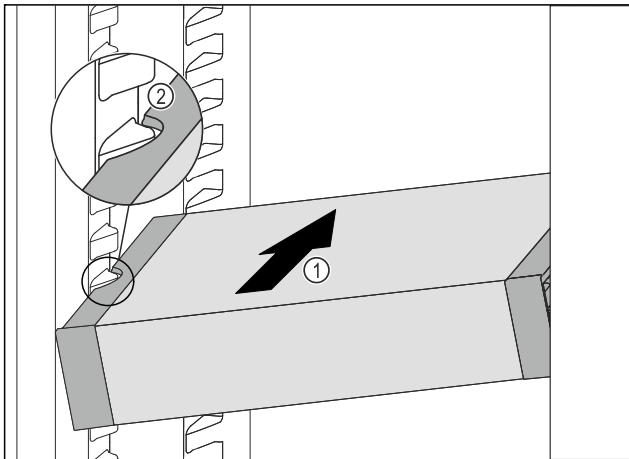

Fig. 73
- ▶ Insert the VarioSafe into the refrigerator compartment at an angle Fig. 73 (1) until the recesses in the side Fig. 73 (2) of the VarioSafe are at the level of the support rib in the refrigerator compartment.